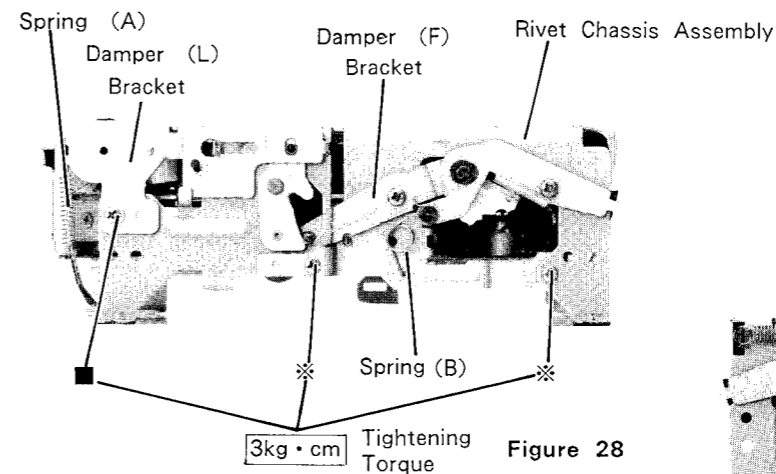

Figure 28
- (1) After removing the Main and Interface P. C. Boards, remove one spring (A) as shown in Figure 28.
- (2) Remove one screw marked "■" as shown in Figure 28.
- (3) Remove the damper from the Pickup Unit shaft, and the bracket can be removed.
- (2) Remove two screws marked "※" as shown in Figure 28.